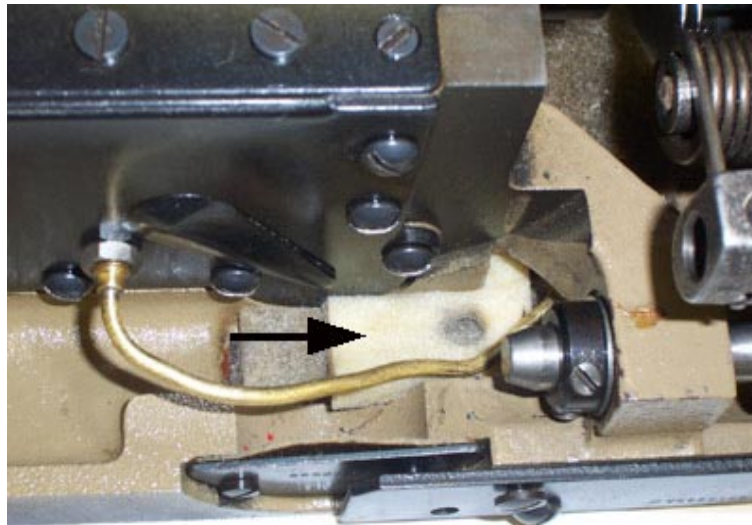

Fig 12
8) Place felt for oil return pump in the back of machine under brass oil tube as shown. (fig 12). Note: If internal oil return pump and brass tube have been removed, used plug TA0750404RO in hole in back cover.